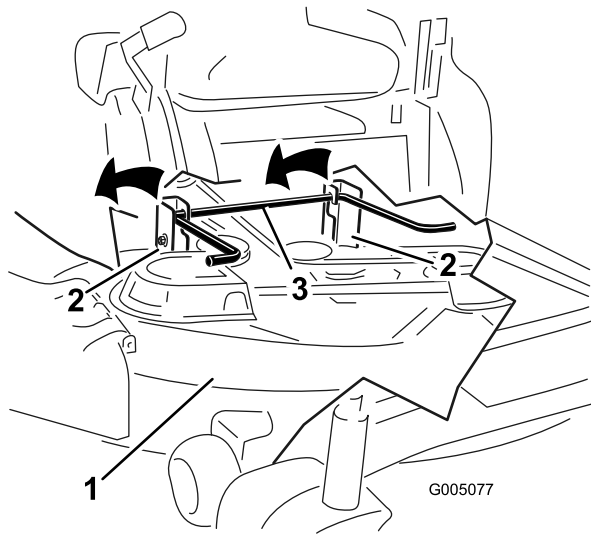

Figure 46
5. Lift the mower deck and hanger brackets clear of the rear lift rod and lower the mower carefully to the ground (Figure 46).
5. Lift the rear of the mower deck and guide the hanger brackets over the rear lift rod (Figure 46).